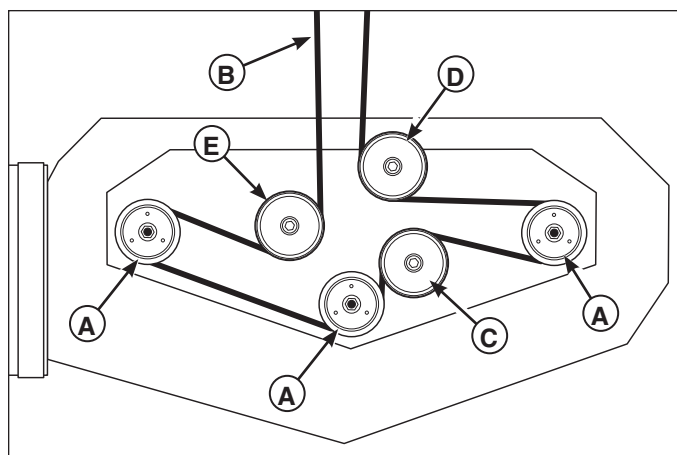

Figure 15. Mower PTO Belt Routing
2. Install the mower deck drive belt on the PTO pulley, the spindle pulleys, and all idler pulleys except the right side stationary idler pulley (E). Carefully rotate the breaker bar COUNTER-CLOCKWISE and install the belt on the right side stationary idler pulley. Carefully release the tension on the breaker bar. The belt should be routed exactly as shown in Figure 15.